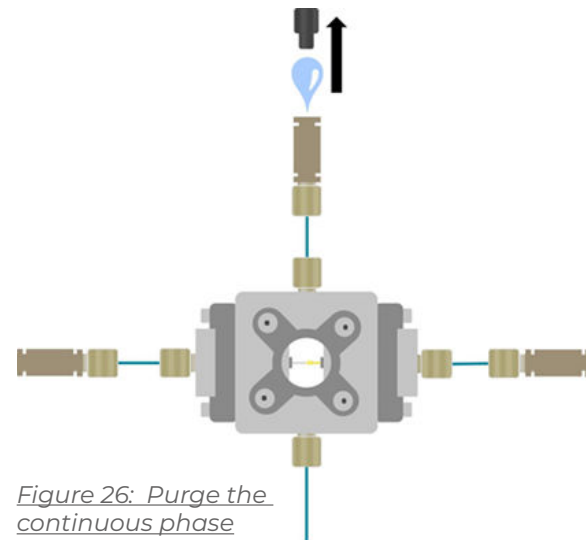

Figure 26: Purge the continuous phase
- 2 Open the purge and let the chamber of the RayDrop purge (Fig 26).